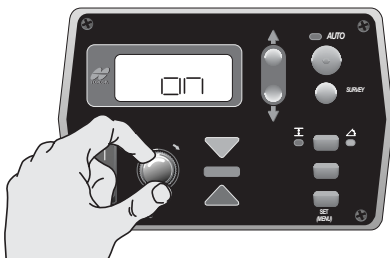

Figure 34. Turning Beeper On
2. Turn the Grade Adjustment Knob to turn the beeper ON or OFF (Figure 34).